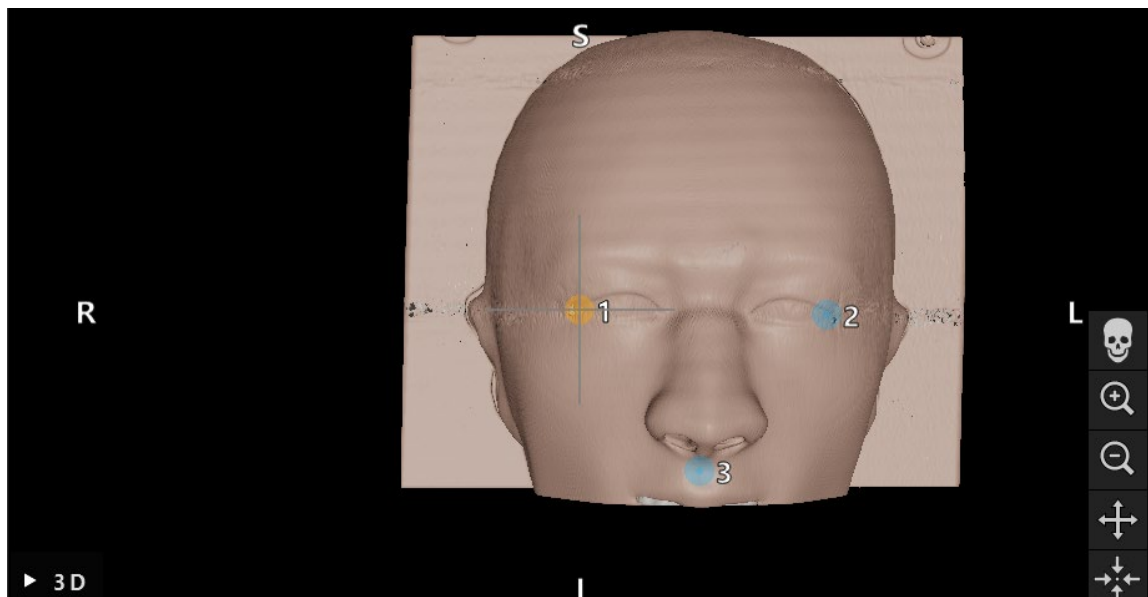

Figure 142 Touch landmark 1 on patient
1. Touch the flashing landmark as precisely as possible with a pointer on the patient. Hold the pointer still until you hear a confirmation tone and a new landmark starts flashing (see Figure 142.)